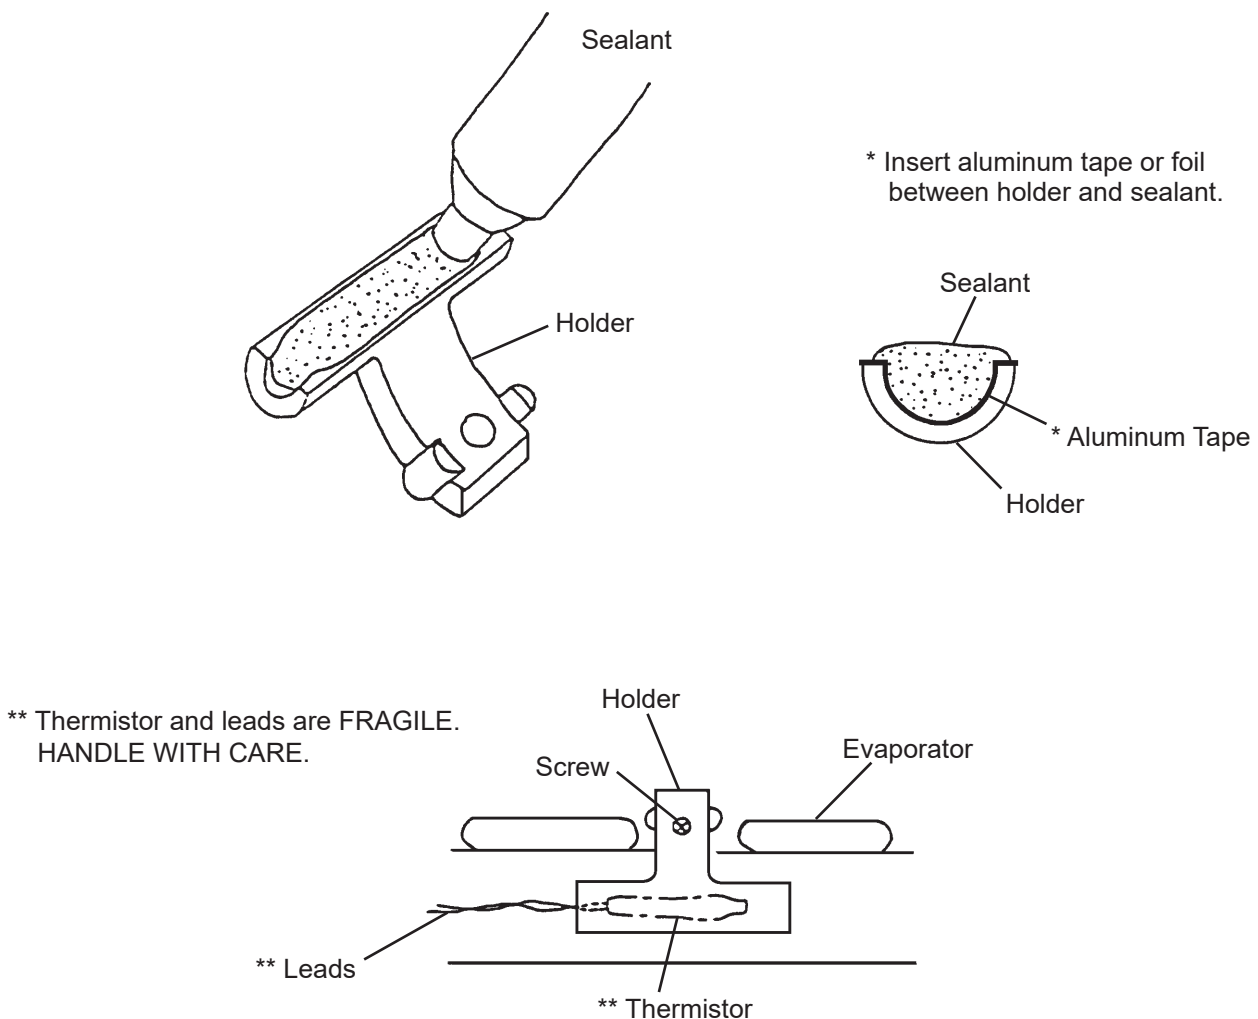

Fig. 21
- 5) Install the new thermistor in the reverse order of the removal procedure, by using a sealant (high-thermal conduct type). See Fig. 21.